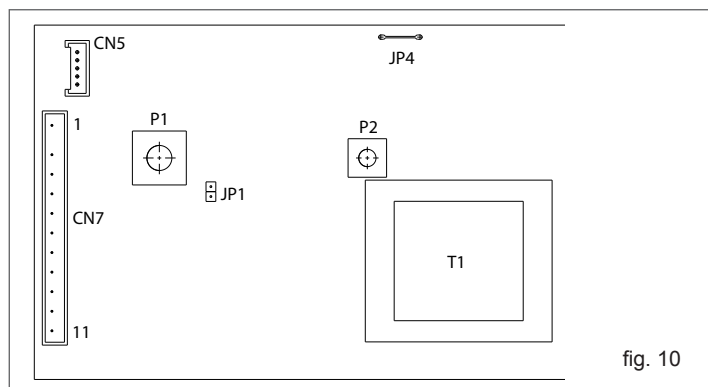

fig. 10
- on the control board (fig. 10):